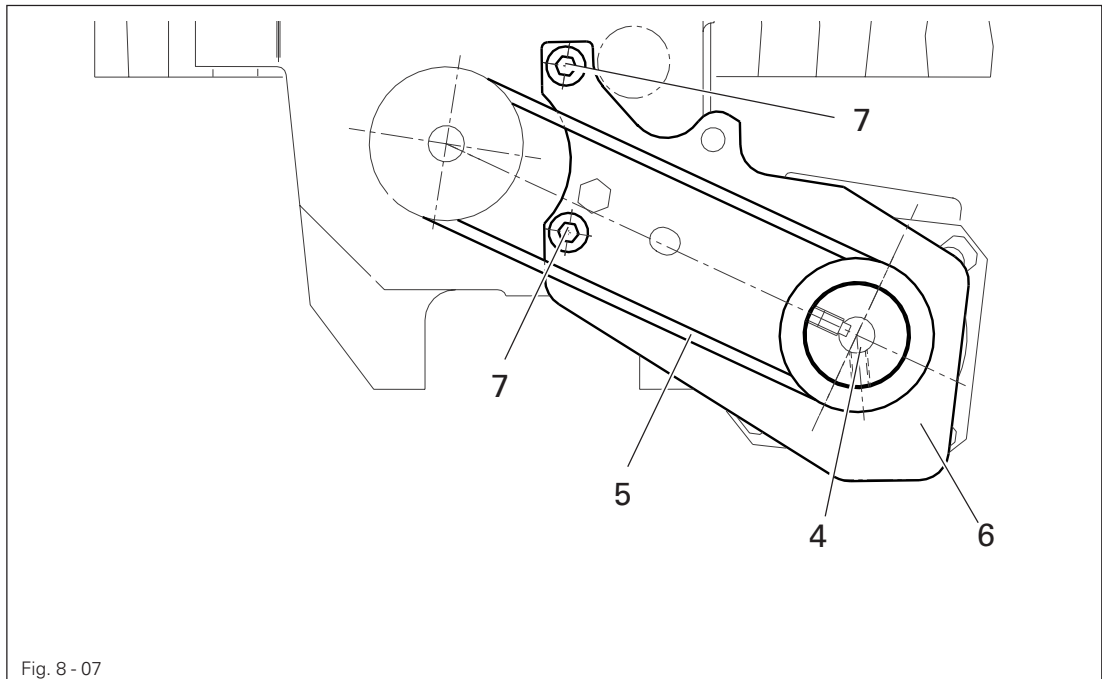

Fig. 8 - 07
- Fit toothed belt 5, making sure that both motor shaft 4 (Fig. 8 - 07) and the machine are not moved.